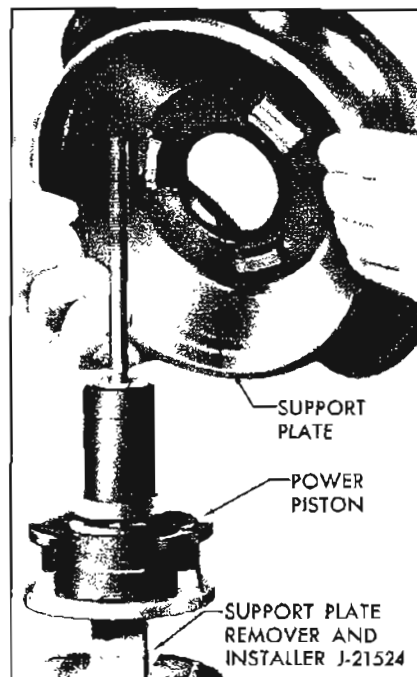

Figure 9-51—Installing Power Piston into Support Plate
15. Holding the support plate on the bare metal, with the locking tangs down, place the support plate and diaphragm assembly down over the tube of the power piston. The flange of the diaphragm will fit into the groove on the power piston. See Figure 9-51.